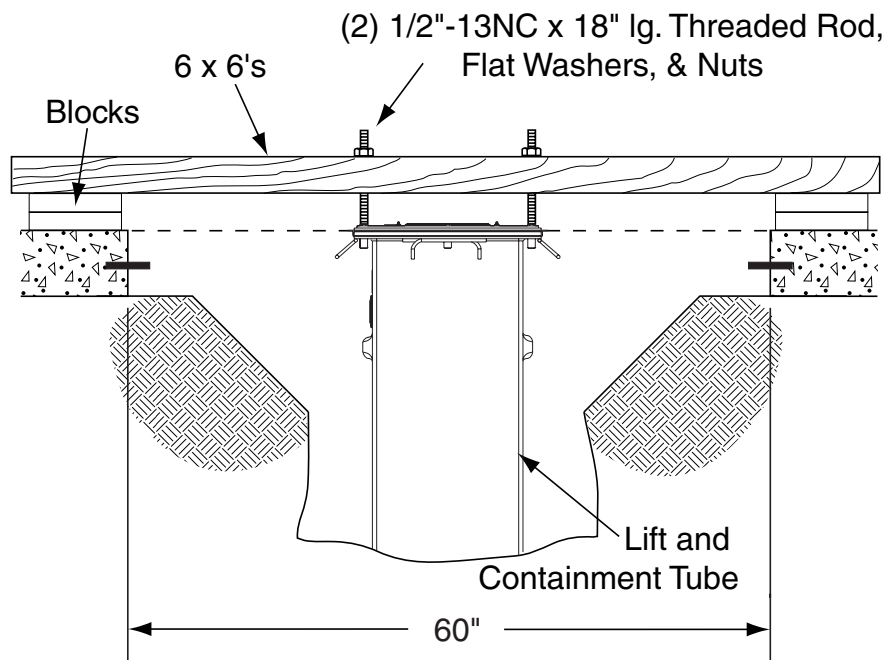

Fig. 4
C. Remove and retain (4) 1/2"-13NC HHCS (marked with X, Fig. 3). Insert 1/2" Threaded Rods x 18" lg. into the holes and secure in place using 1/2" flat washers and nuts, Fig. 4.
D. Attach 6 x 6's to support unit on existing floor and secure in place with 1/2" flat washers and nuts, Fig. 4. Remove shipping straps and install guide barrel bolts in open holes and torque to 60 ft-lbs. Remove protective covers from top of jacks.